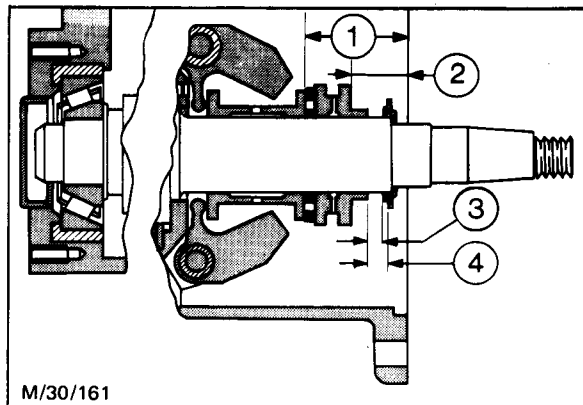

Fig. 74 - Governor Checking Dimensions (Dover & Dorset)
22. Measure dimension 'Y', from the face of the thrust collar to the governor housing gasket face. If dimension 'Y' is not within the specified tolerance, select and fit the next size thrust collar. Repeat the measurement until it meets the specification (Fig. 74).
25. Dorset - Measure dimension 'A', from the end of the thrust collar spigot, or governor hub sleeve, to the rear face of the stop disc or stop washer (Fig. 74).